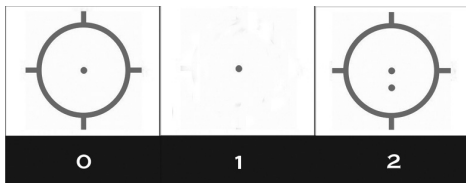

Fig. 1 XPS2 reticle options
The XPS2 is offered with one of the following (3) reticle options (see fig. 1):
- 2- 68 minute ring with vertical and horizontal stadia and (2) 1 MOA aiming dots